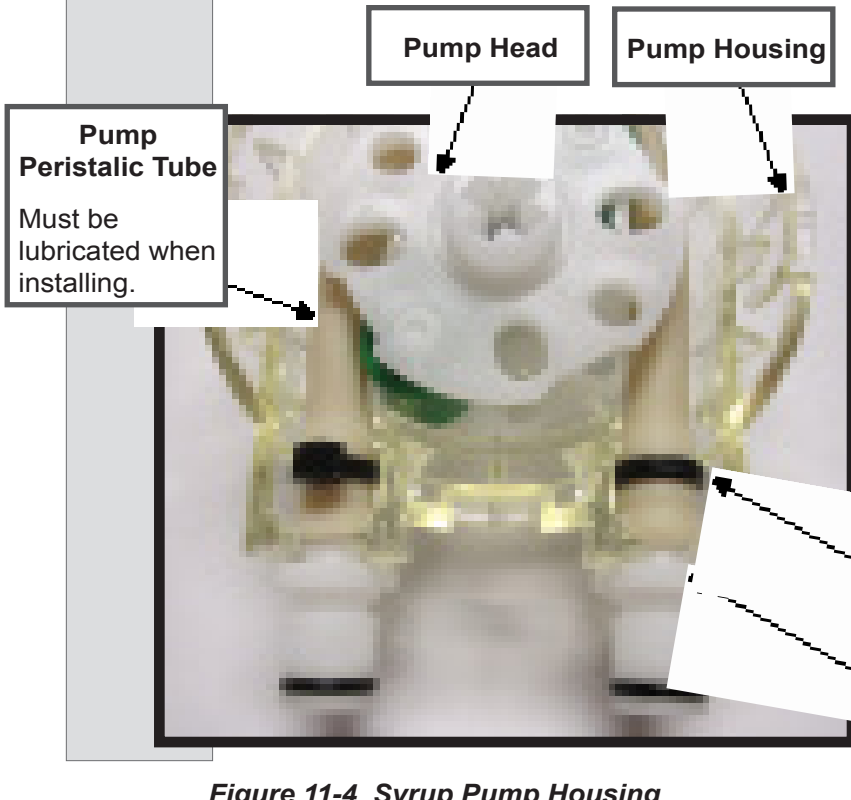

Figure 11-4 Syrup Pump Housing
1. Place a silicone bead of a lubricant [i.e. Dow Corning Compound 7, HC158066] on the outside of each pump peristaltic tube. Wrap the peristaltic tube around the pump head centering it on the rollers. Place the head in the housing making sure the white plastic coupling is outside of the housing and the black tie wrap is inside as shown in figure 11-4.
e. Select a syrup flavor by pushing the proper button then press the syrup prime/calibrate button (see figure 11-4 item 2). Hold the button until sanitizer is flowing into bucket. Continue holding button for one (1) minute.